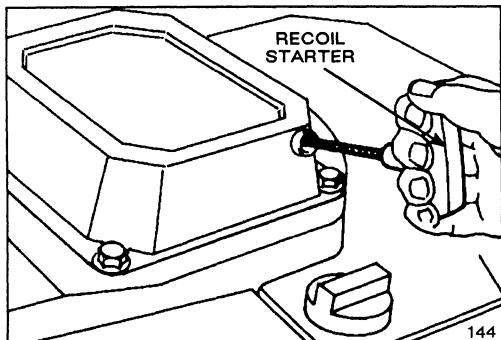

Figure 7
**3. STARTING**—Move throttle to CHOKE. Brace yourself and mower securely by placing your foot on the top left side of mower housing where it says "PLACE FOOT HERE WHEN STARTING". Pull engine mounted recoil starter out until positive engagement results; then pull vigorously to start the engine (Fig. 7). Regulate throttle as desired when engine starts.